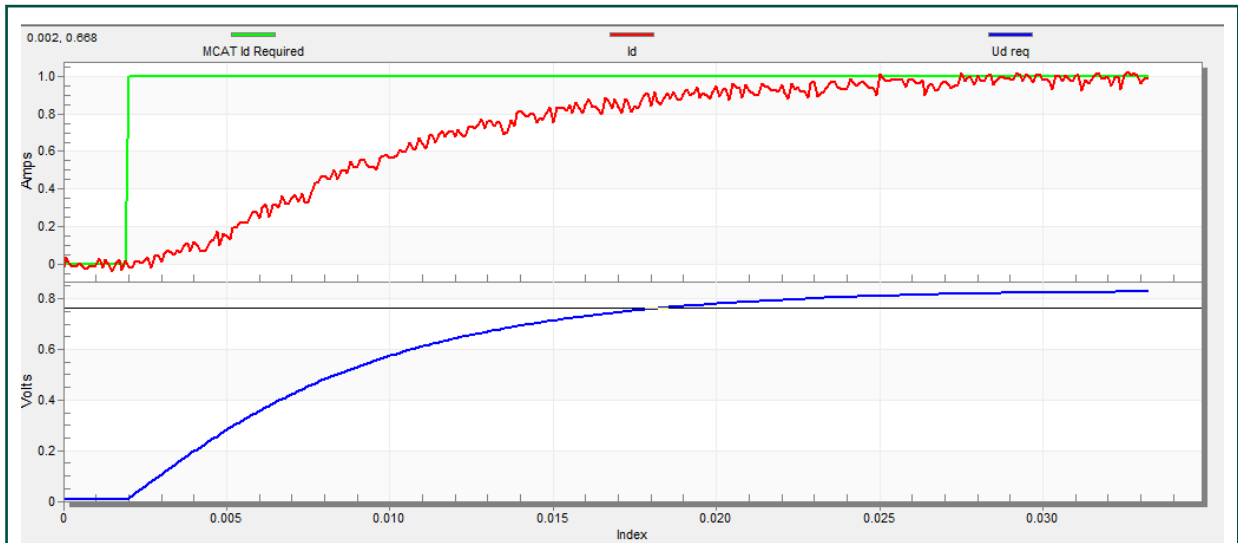

Figure 50. Slow step response of the Id current controller
- The loop bandwidth is low (110 Hz) and the settling time of the I_d current is long (Figure 50).